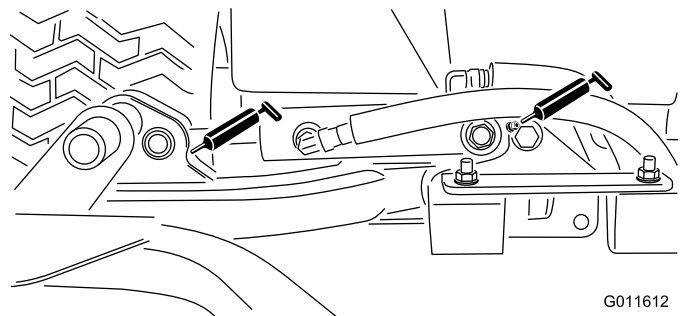

Figure 30
- Cutting unit lift-arm cylinders (2 each)—Figure 30
- Lift-arm pivots (1 each)—Figure 30